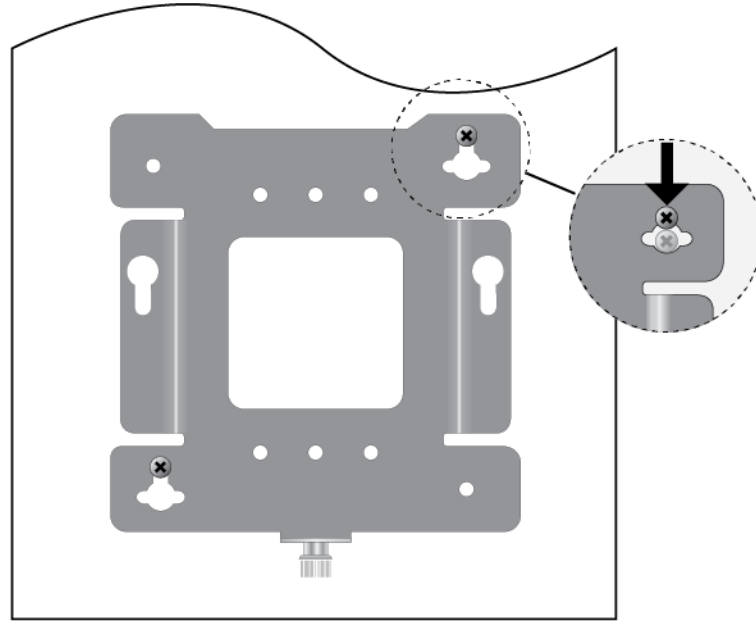

Figure 13. Installing the Mount Bracket On the Screws
6. Install the mounting bracket on the screws by inserting the openings of the bracket key-hole slots under the two screw heads and sliding the bracket into narrow end of the key-hole slots. Refer to Figure 13 on page 44.